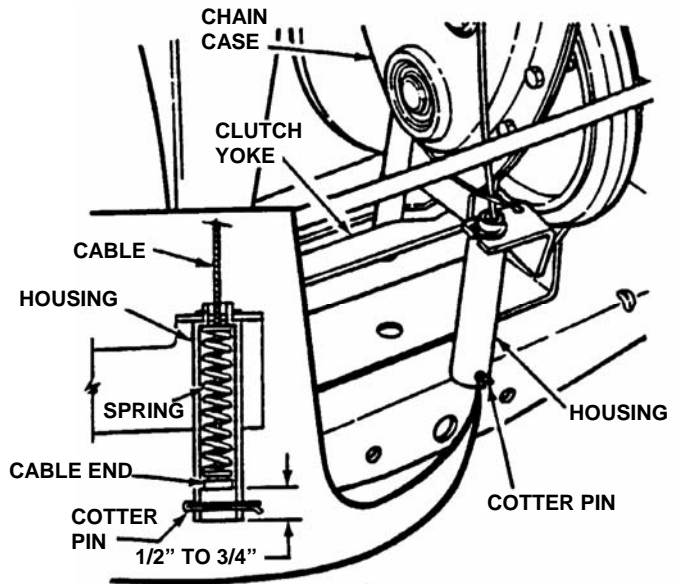
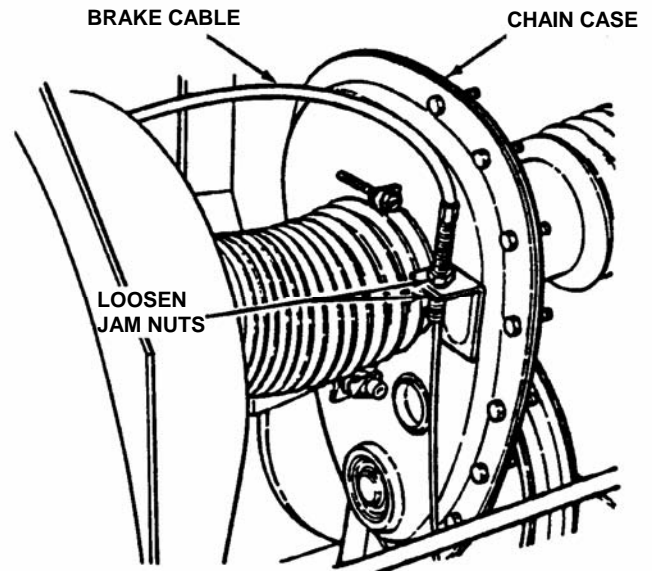

FIGURE 4.8
FIGURE 4.9
- 3.5.5. Clutch Yoke (See Figure 4.8).
5. Measure the distance between end of clutch/brake cable and bottom of housing. Measurement should be no less than  $1/2$ " and no greater than  $3/4$ ". See Figure 4.8.
6. If measurement is less than  $1/2$ " or greater than  $3/4$ ", loosen the two jam-nuts. See Figure 4.9. Hold the clutch/brake cable to the chain case bracket.
7. Adjust cable up or down using the jam-nuts to obtain a distance of  $1/2$ " to  $3/4$ " between end of clutch/brake cable (adjustment shown in inset of Figure 4.8) and bottom of housing. See Figure 4.9.
5. Move transmission shift lever to the neutral (N) position.
6. Rotate clutch yoke (clutch yoke shown in Figure 4.8) out with your hand and work belt between drive disc and rubber driven disc.